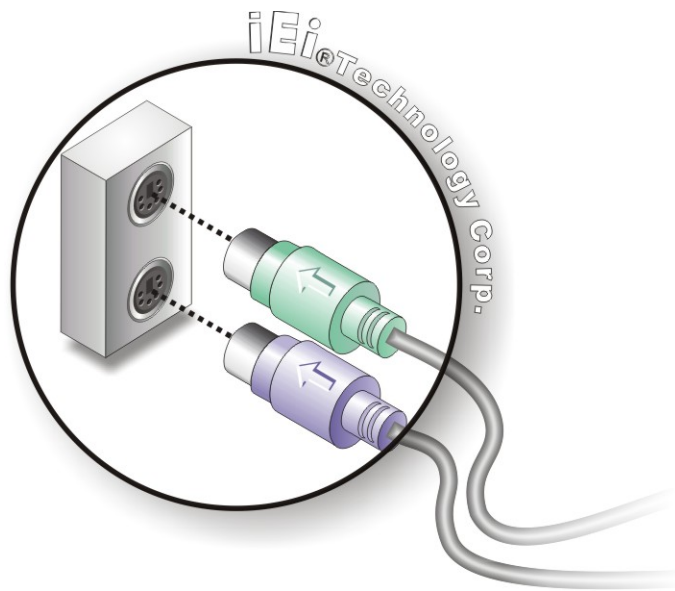

Figure 5-16: PS/2 Keyboard/Mouse Connector
Step 2: Insert the keyboard/mouse connector. Insert a PS/2 keyboard or mouse connector into the appropriate PS/2 connector on the external peripheral interface connector. See **Figure 5-16**.